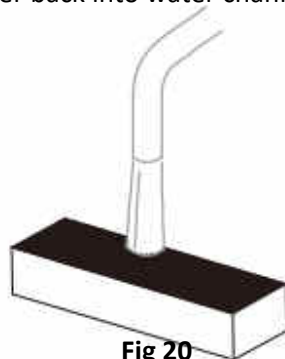

Fig 20
- 2) Clean both sides of the filter with tap water. Soft brush can be also used when cleaning. (Fig 20)
- 3) Use clean water to wash water channel, remove water stains, assemble the filter and put the whole channel back into appliance. (Fig 20)